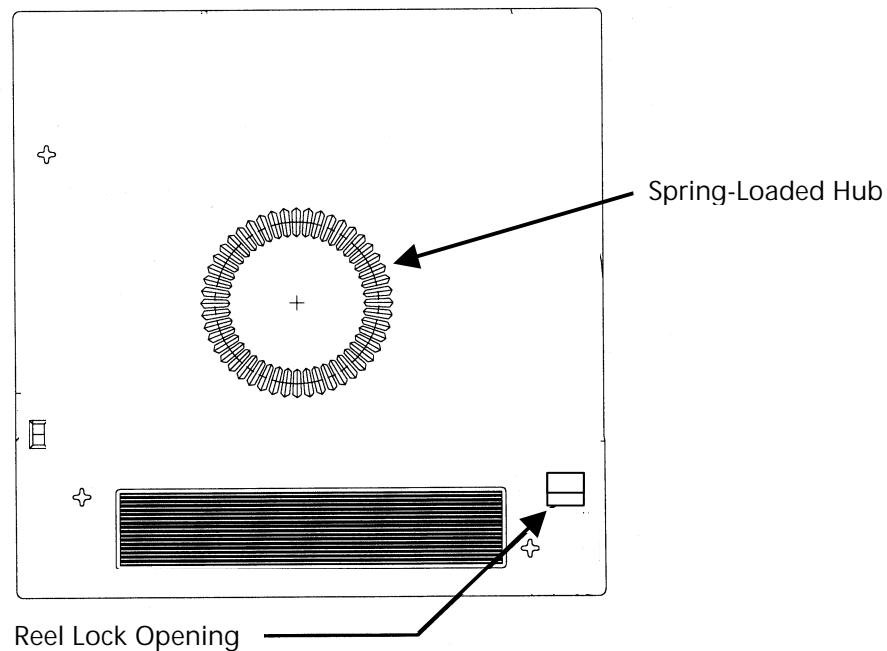

Figure 2 Location of Reel Lock Opening and Spring-Loaded Hub on Bottom of DLTape Cartridge
5. Look at the bottom of the tape cartridge, holding it as shown in Figure 2.
Check the opening indicated in Figure 2 and ensure that the small plastic tab is partially visible. This is the second reel lock. The reel locks can break if the cartridge is dropped. This may be the cause of any rattling sound you hear when you gently shake the tape cartridge. *If this reel lock tab is not visible do not use the cartridge.*